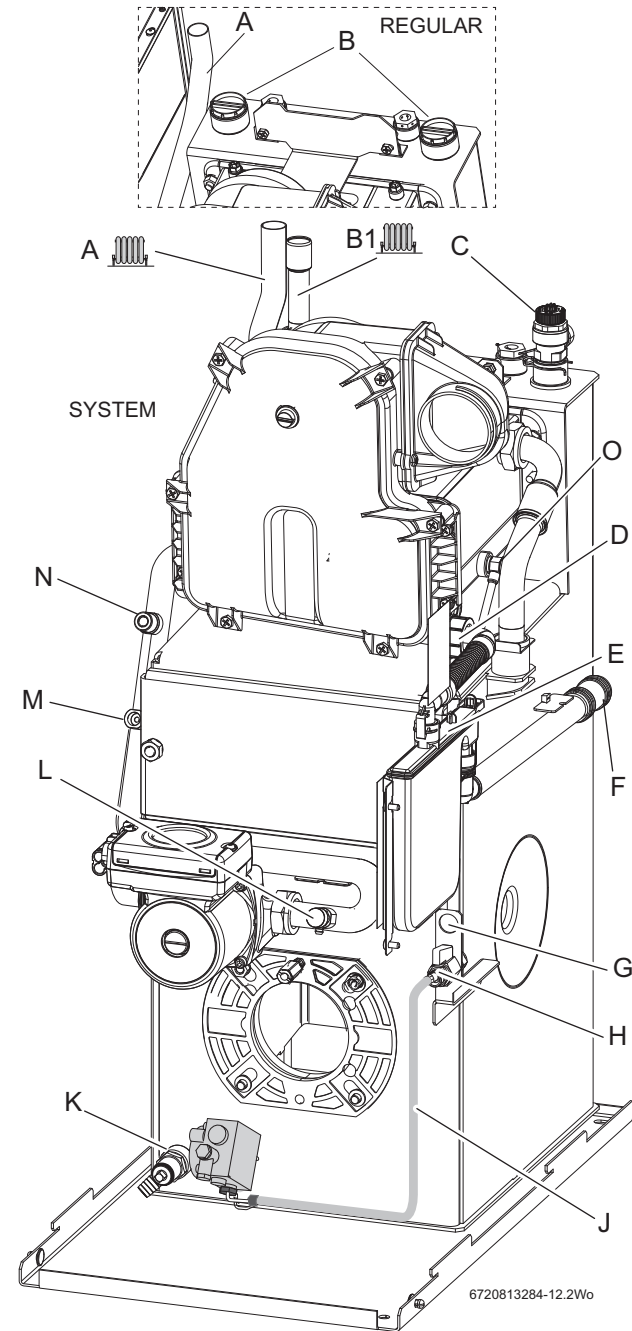

Fig. 45 Pipework connections
- ▶ Refer to figure 45 and ensure that the isolating valve (H) is fully closed and route the oil supply pipe along the right side of the boiler and connect to the isolating valve (H).
2. Connect the flexible oil pipe return hose [3] (not supplied) to the oil pump and return pipe fixing and tighten to secure (for routing see figure 45).